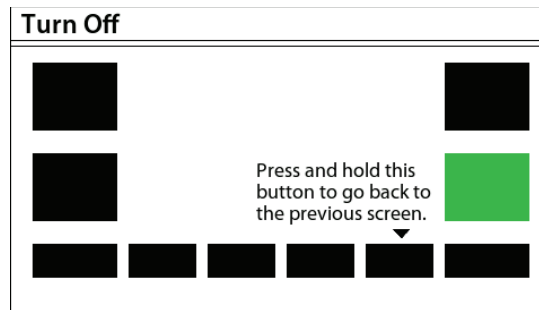

Figure 8 - UI Component Test
- **UI Component Test** – Upon activation, all LEDs are turned on. Pressing each button turns off its LED, rotating the cycle selector knob turns off each LED, and pressing the ATM buttons changes their on-screen representations from black to green (see figure 8). Press and hold the right-most navigation key to return to previous screen.